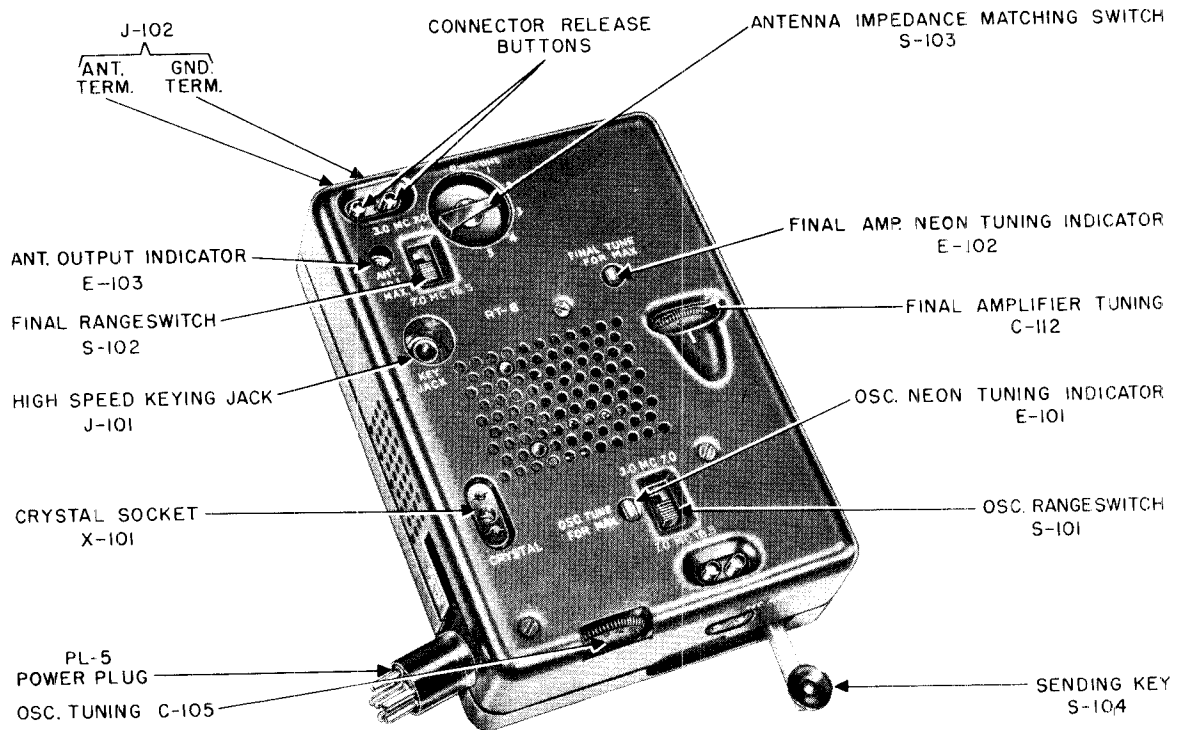

Figure 9. Transmitter RT-6 showing control locations
### 12. CONTROLS AND FUNCTIONS—(See Figure 9)
#### 16. TUNING — (Refer to Figure 9)
(1) by the attached sending key (Figure 9). A keying speed not exceeding 40 wpm (words per minute) may be attained.
(2) by inserting a semi-automatic (bug) key half-way into the KEY JACK (Figure 9) and leaving the attached sending key out. A keying speed not exceeding 40 wpm may be attained.
(3) by completely inserting an automatic tape keyer into the KEY JACK (Figure 9) and leaving the attached sending key out. A keying speed not exceeding 60 wpm may be attained.